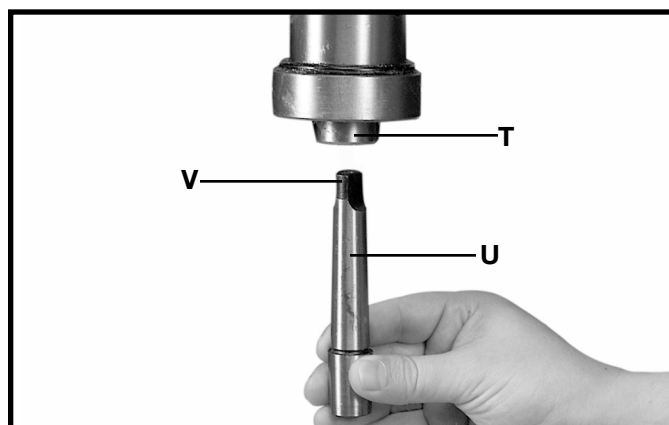

Fig. 13
12. **IMPORTANT:** Make certain the tapered hole in the bottom of spindle (T) Fig. 13, and the taper on spindle adapter (U) are clean and free of any grease, lacquer or rust preventive coatings. **NOTE:** If necessary, household oven cleaner can effectively remove these coatings from the spindle and spindle adapter; however, carefully follow the manufacturer's safety rules regarding its use.
13. Push spindle adapter (U) Fig. 13, up into spindle (T) making certain the tang (V) engages the mating slot inside spindle (T).